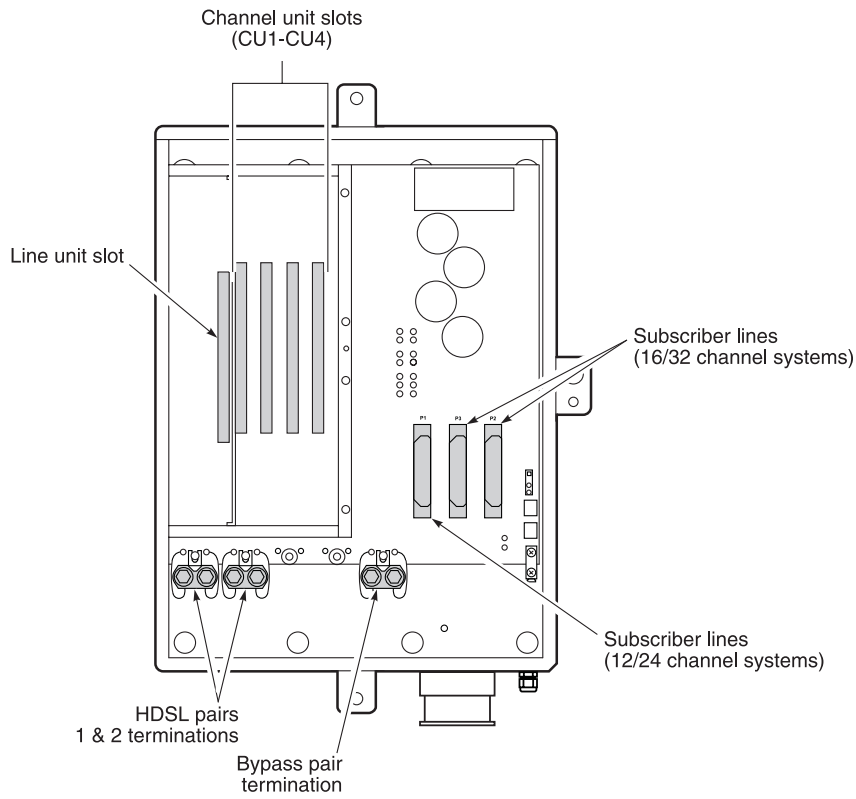
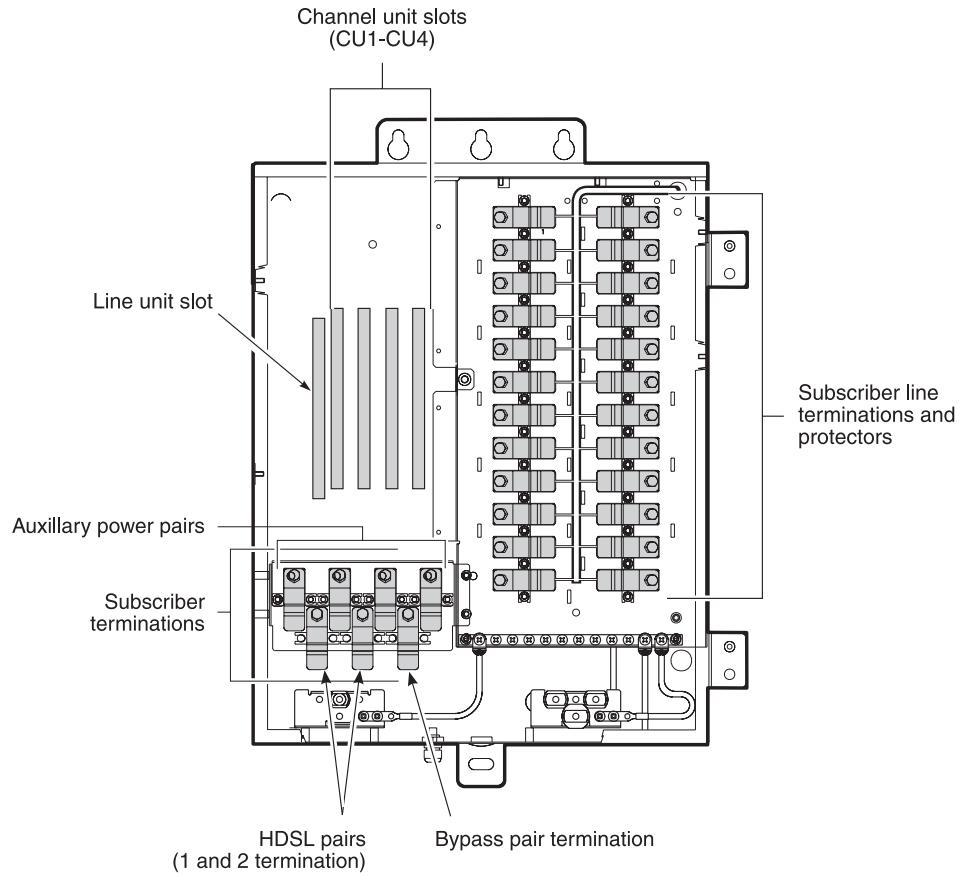

Figure 1. FRE-765 List 4 RT Enclosure (Interior View)
Figure 7. FRE-765 List 4H RT Enclosure (Interior View)
The PairGain® PG-Flex© FRE-765 List 4x Remote Terminal (RT) Enclosures (see Figure 1 through Figure 7) provide convenient mounting of one RT Line Unit and up to three Channel Units, supporting up to 24 channels. The enclosures provide termination points for subscriber circuits, power, and metallic bypass pair. Terminations, with internal gas tube protectors, are provided on the backplane for High bit-rate Digital Subscriber Line (HDSL) and Bypass connections. Terminations may be added for auxiliary power pairs when PG-Flex is used with a PG-Flex doubler. The enclosure can be pole or wall mounted and is environmentally sealed for outside plant installations. Listed below are the FRE-765 enclosures described in this practice:
- List 4—see Figure 1 on page 2
- List 4H—see Figure 7 on page 5